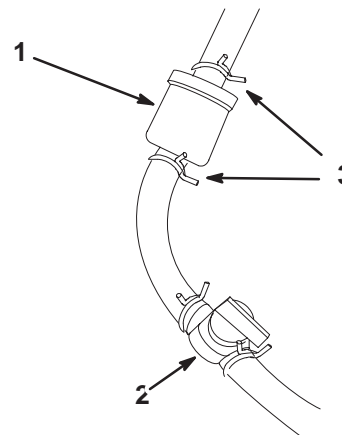

Figure 46
4. Close the fuel shut-off valve (Fig. 46).
5. Squeeze the ends of the hose clamps together and slide them away from the filter (Fig. 46).
7. Install a new filter and move the hose clamps close to the filter to secure the fuel line (Fig. 46).